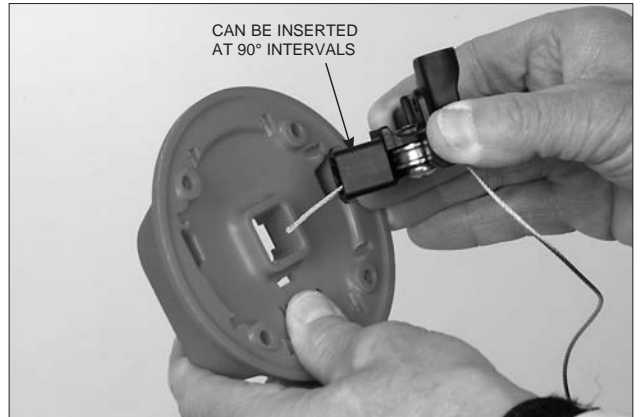

FIGURE 5-77
1. The block can be inserted into the faceplate at 90° intervals. See Figure 5-77.